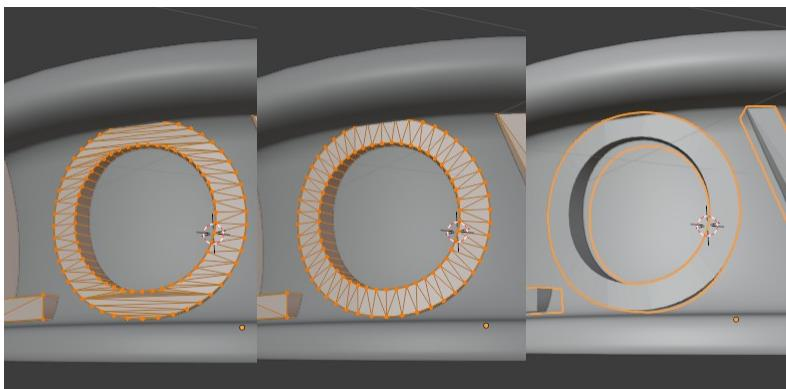

Figure 3-4 Beautifying an ugly arrangements of faces
10. Switch to Edit mode, select all vertices then **Face ▶ Beautify Faces**. The rearrangement can be seen clearly in Figure 3-4